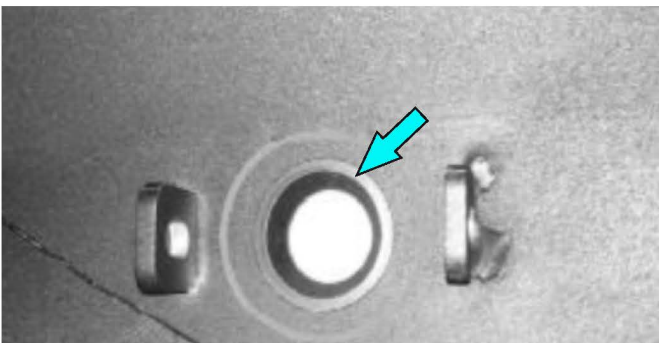

Fig.46
46. Install in parking sensors holes parking sensor washers (item M) (fig.46).